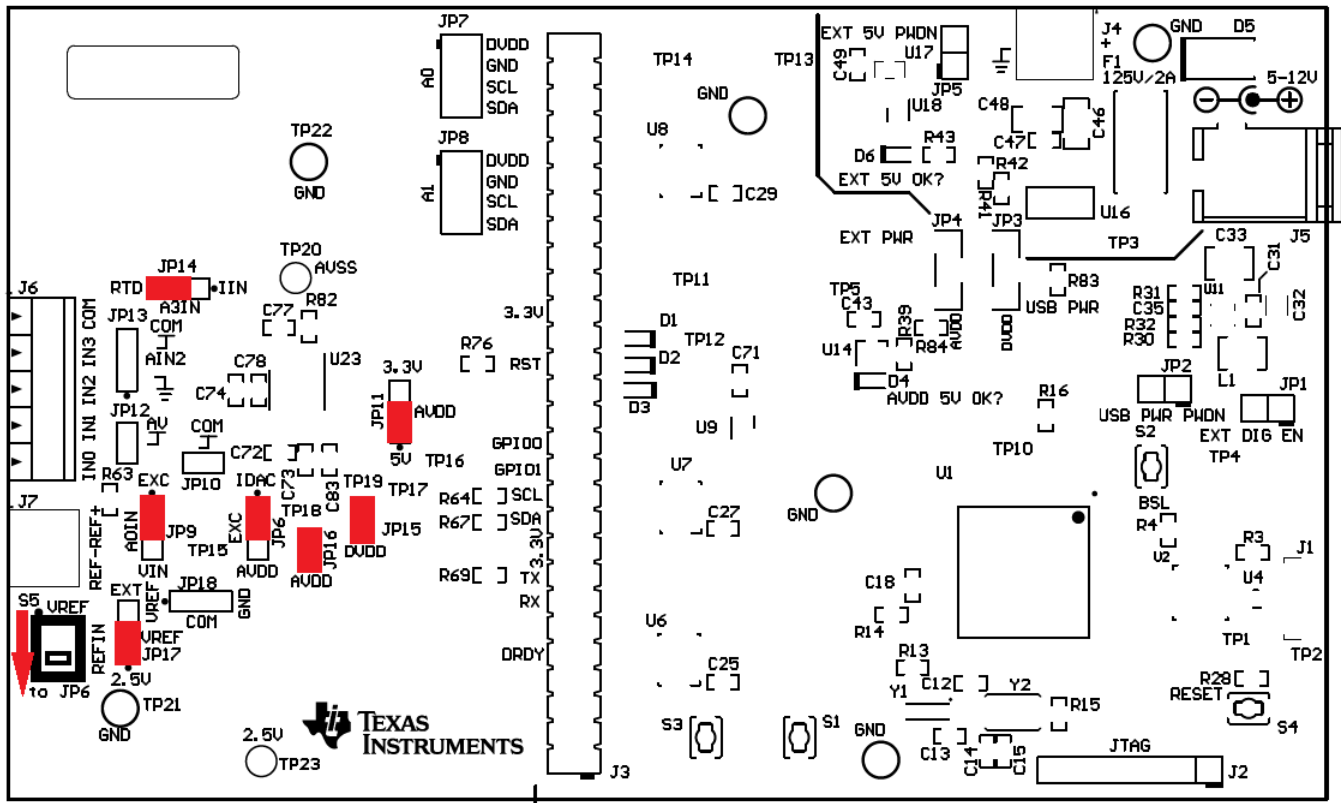

Figure 2. ADS1x2U04 EVM
The EVM should come configured with the settings listed in Table 2 and illustrated in Figure 2.
3. Ensure all jumpers and switches are configured in the default configuration per Table 2 and Figure 2.